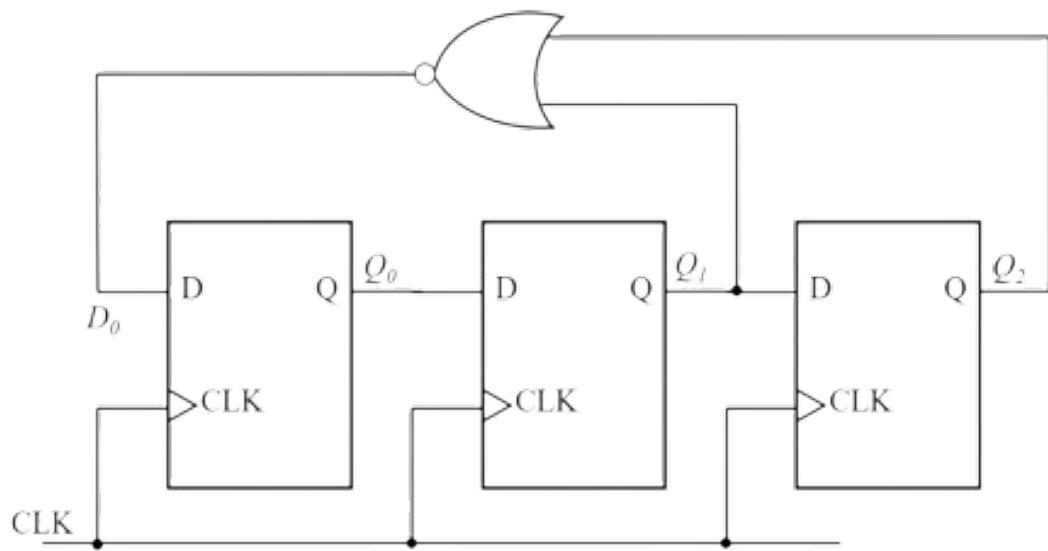

Figure 5.11:
16. The digital circuit shown in Fig. 5.11